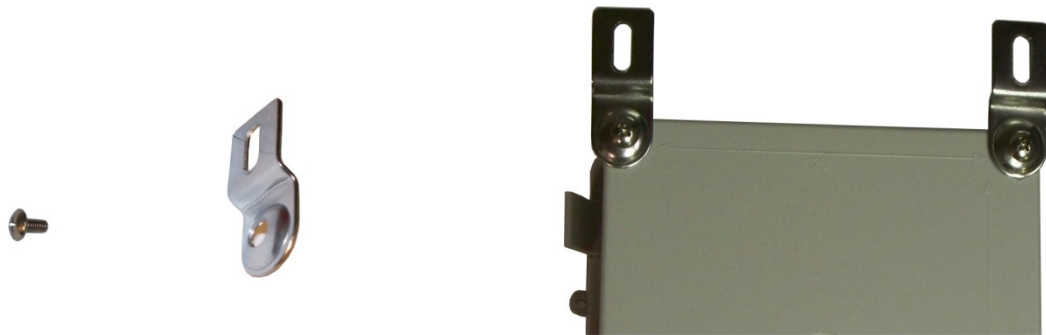

Figure 6: Mounting the enclosure
1. Attach the mounting brackets to the back of the enclosure with the four provided screws as shown in Figure 6.